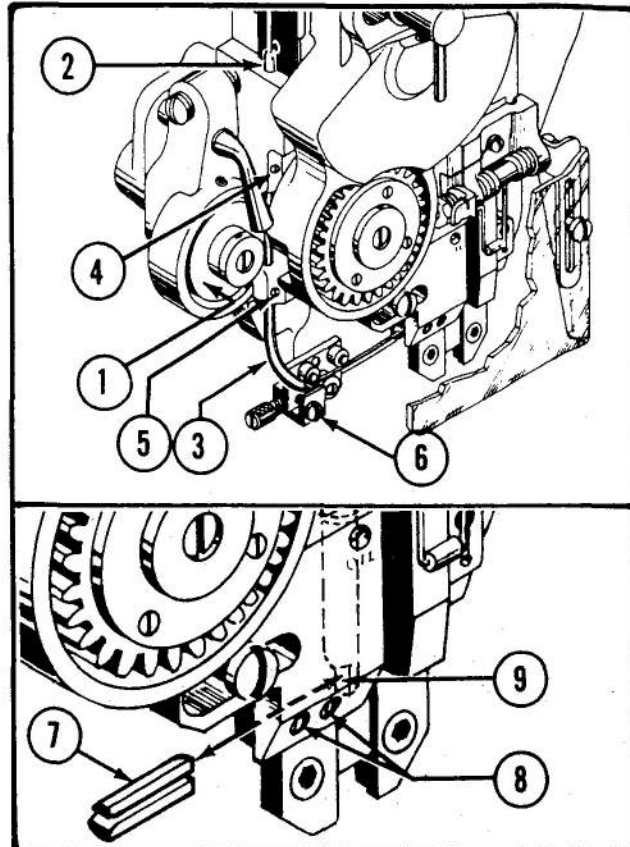

Figure 17—Inspecting Wire Feed Gears, Tubes, and Stationary Cutter
a. WIRE FEED GEARS (See Fig. 17)—The wire feed gears (Fig. 17 shows the left, or idler, gear (1), the right, or drive, gear being located behind the wire feed guard) should be checked for smooth and parallel wire gripping surface. Worn surfaces may result in wire slipping thereby not feeding properly; if surfaces are not parallel, wire may be rolled on one side causing wire curvature and resulting in imperfect stitches.
b. WIRE FEED TUBES (See Fig. 17) The upper and lower wire tubes, (2) and (3), should be checked for any obstructions in the tube passages which may interfere with free movement of wire. Slots may eventually appear in tube passages, due to normal wear, which will cause the wire to catch and bind, thereby resulting in improper feeding.
c. STATIONARY CUTTER (See Fig. 17)—The stationary cutter (7) should be periodically checked for any obstructions in the wire passage which may interfere with free movement of wire. Check that cutting end is sharp; dull cutter may be resharpened, but eventually must be replaced.